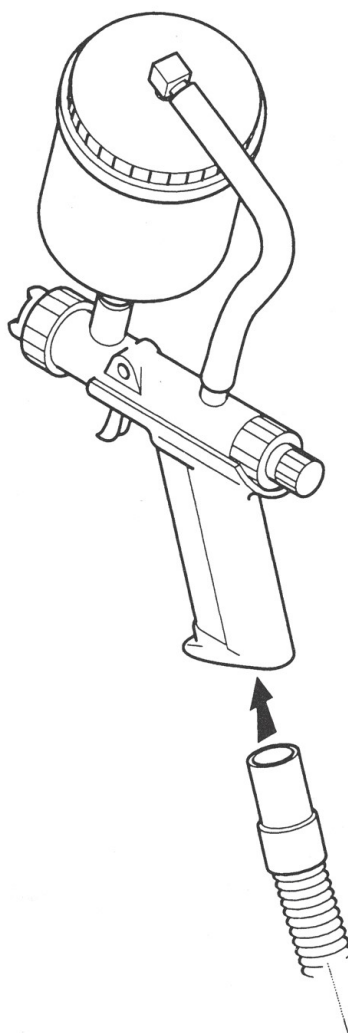

Fig. 2
- Insert the air hose of the **ABAC** low-pressure compressor into the insulated handle of the spray gun (Fig. 2).